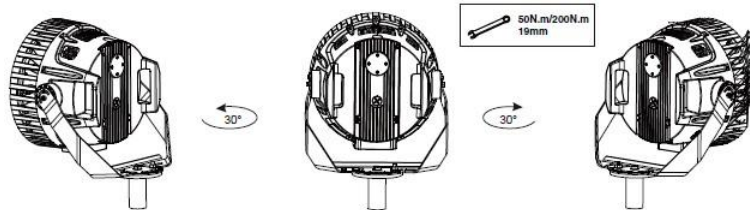

Figure 7
4. To adjust the horizontal positioning, loosen the M12 bolts at the base, rotate the fixture as needed, then re-tighten the bolts (Figure 7).